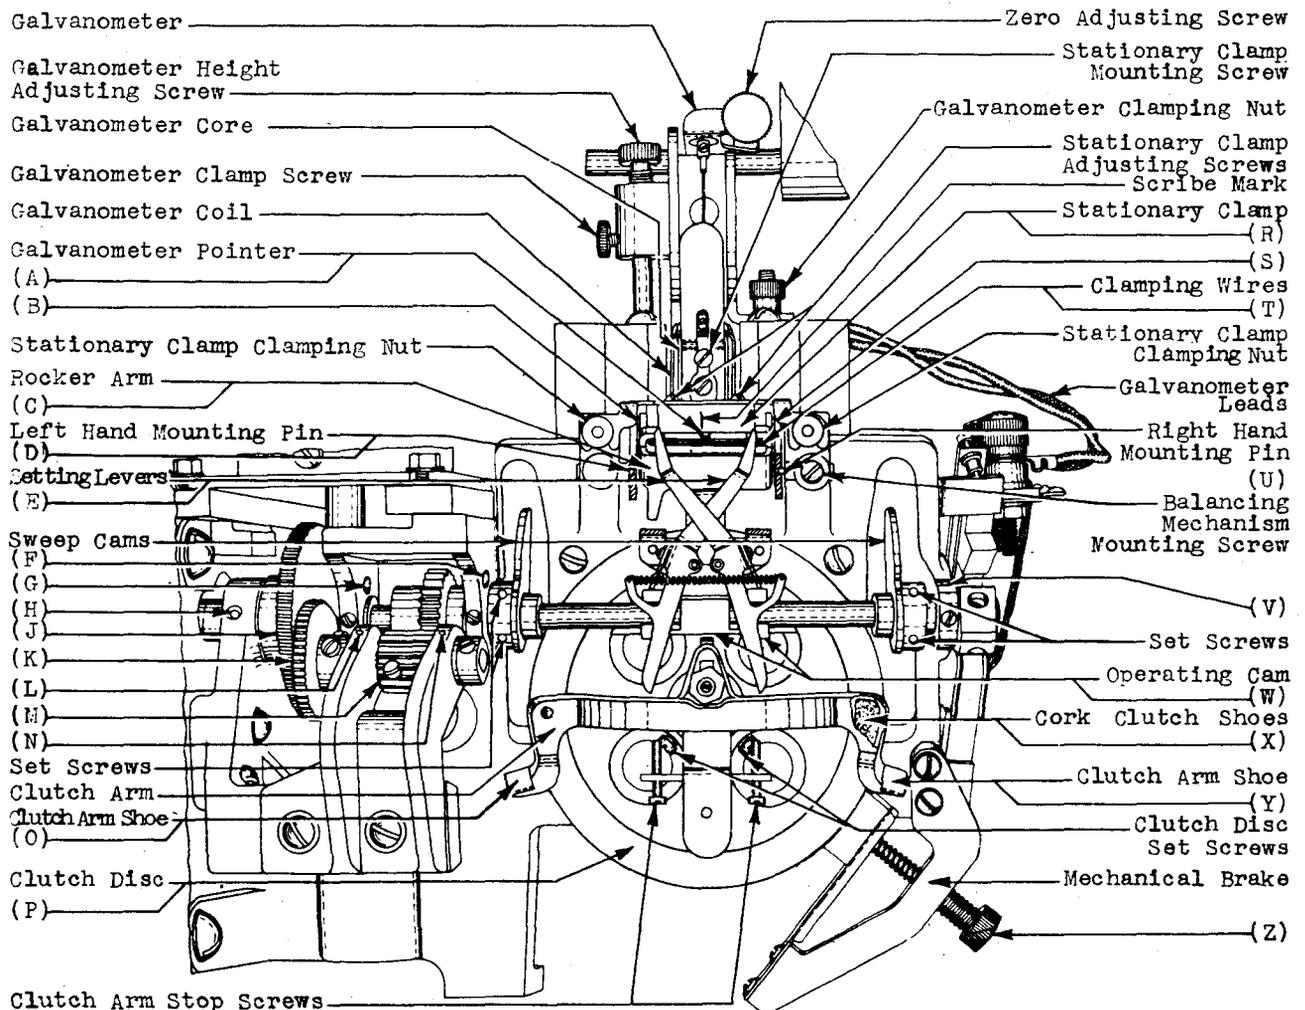
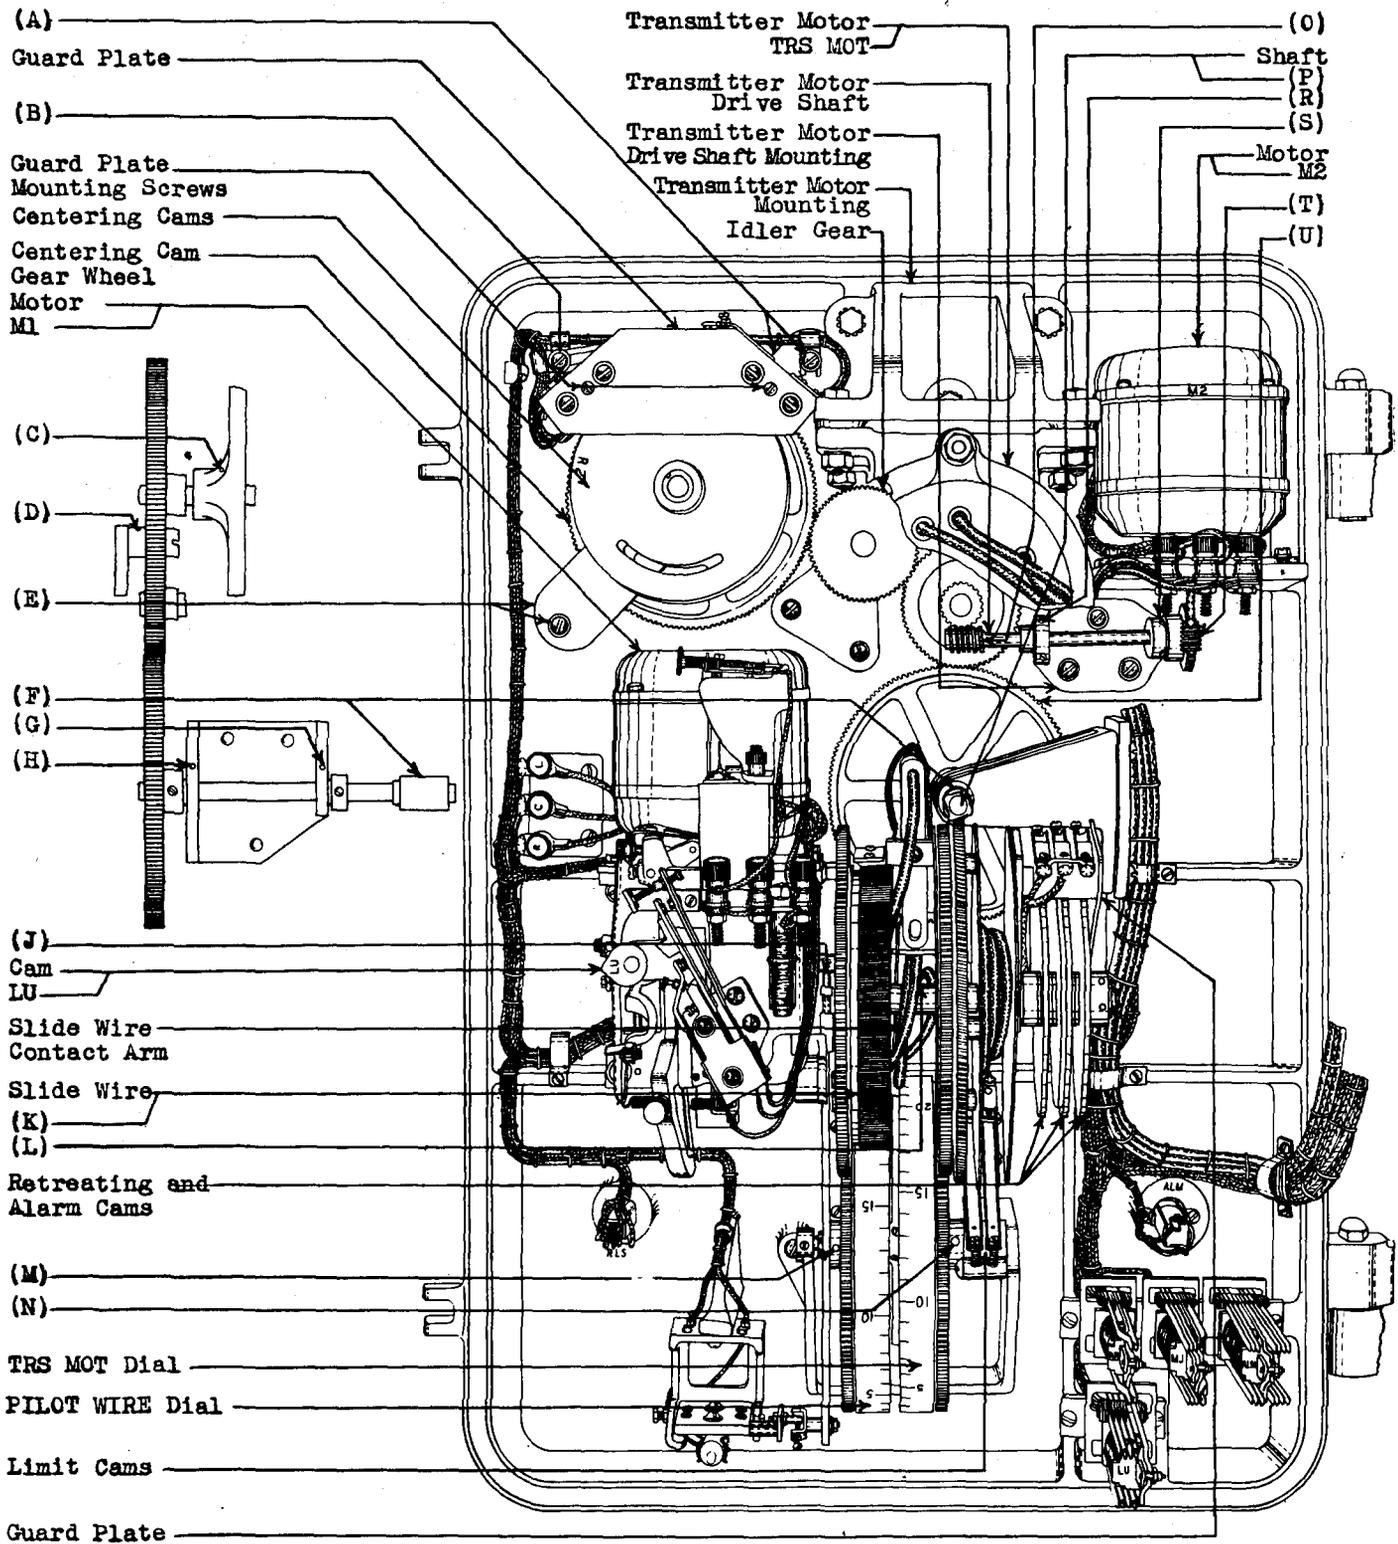
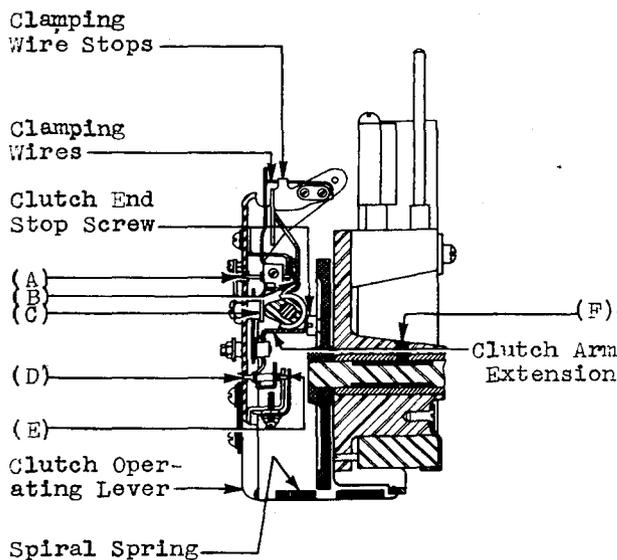

Fig. 1 - Control Mechanism
Fig. 2 - Master Twist Controller - Rear View
Fig. 3 - Balancing Mechanism and Clutch - Cross Section
- (1) Clutch disc. Fig. 1 (P).
- (2) Cork clutch shoes. Fig. 1 (X).
- (3) Galvanometer pointer. Fig. 1 (A).
- (4) Stationary clamp. Fig. 1 (R).
- (5) Clamping wires. Fig. 1 (T).
- (6) Setting levers. Fig. 1 (E).
- (7) Shaft bearings. Fig. 1 (F), (G), (H), (L), (N) and (V). Fig. 2 (C) (D), (G), (H), (L), (M), (N), (R) and (S). Fig. 3 (F).
- (8) Gears. Fig. 1 (J), (K) and (M). Fig. 2 (F), (O) and (T).
- (9) Clutch arm shoes. Fig. 1 (O) and (Y).
- (10) Relay contacts and cam contacts. These shall be cleaned in accordance with the section covering the cleaning of relay contacts and parts and for contacts in general.
- (b) The operating cam Fig. 1 (W), the slide wire Fig. 2 (K), and the balancing mechanism Fig. 3 shall be cleaned at 6 month intervals.
- (1) Shaft bearings. Fig. 1 (F), (G), (H), (L), (N) and (V). Fig. 2 (C), (D), (G), (H), (L), (M), (N), (R) and (S). Fig. 3 (F).
- (2) Gears. Fig. 1 (J), (K) and (M). Fig. 2 (F), (O) and (T).
- (3) Clutch arm shoes Fig. 1 (O) and (Y).
- (4) Socket and pivot bearings. Fig. 1 (B), (D), (S) and (U).
- (5) Socket and pivot bearings Fig. 3 (A), (B), (D) and (E).
- (6) Fibre buttons Fig. 3 (C).
- (7) Operating cam Fig. 1 (W).
- (a) Clamping Wires: Fig. 1 (T) and Fig. 3 - The clamping wires shall be straight and parallel to each other. Gauge by eye.
- * (b) Clamping Wire Pressure: Fig. 3 - The pressure of each clamping wire on the clamping wire stops shall be:
- +(a) Coil Position: The galvanometer coil Fig. 1 shall be centrally located vertically and horizontally with respect to the galvanometer core, its front edge shall be approximately flush with the front face of the core, and it shall swing freely in both directions. Gauge by eye.
- ‡(g) Galvanometer Clamping Nut: Fig. 1 - The galvanometer clamping nut shall be turned down until it touches the lug but shall not be tightened.
- ‡(h) Pointer: Fig. 1 (A)
- (1) With the galvanometer winding connected to the test resistance the galvanometer pointer shall be centered between the stationary clamp (R) and the clamping wires (T) (Fig. 1) when the straight edges of the sweep cams extend vertically upward. Gauge by eye.
- (2) The upper and lower faces of the galvanometer pointer shall be parallel to the horizontal planes of the stationary clamp and the rocker arm clamping wires. Gauge by eye.
- (3) The galvanometer pointer shall not stick to the stationary clamp, the rocker arm clamping wires or the setting levers. Gauge by eye.
2.07 Stationary Clamp: The scribe mark on the stationary clamp Fig. 1 (R) shall be centered above the center of the galvanometer pointer when the pointer is in its zero position. Gauge by eye.
(a) Clutch Disc: The clutch disc Fig. 1 (P) shall be tight on its shaft. Gauge by feel.
(c) Cork Clutch Shoes: The cork clutch shoes Fig. 1 (X) shall engage the clutch disc simultaneously and their surfaces shall be parallel to the plane of the disc. Gauge by mechanical test.
(d) Clutch End Stop: When the clutch end stop screw Fig. 3 is bearing against the clutch arm extension, the clutch arm shall not be deflected from the horizontal by the operation of the controller. Gauge by eye.